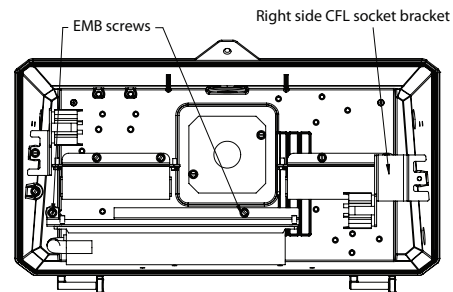

FIG. 4
**NOTE:** For luminaire with two [2] compact fluorescent lamps [CFL], remove right side CFL socket bracket and clear it out of the way before removing reflector **FIG. 4**.
- If luminaire is equipped with back-up battery pack [EMB] option; remove two [2] EMB screws **FIG. 4**.